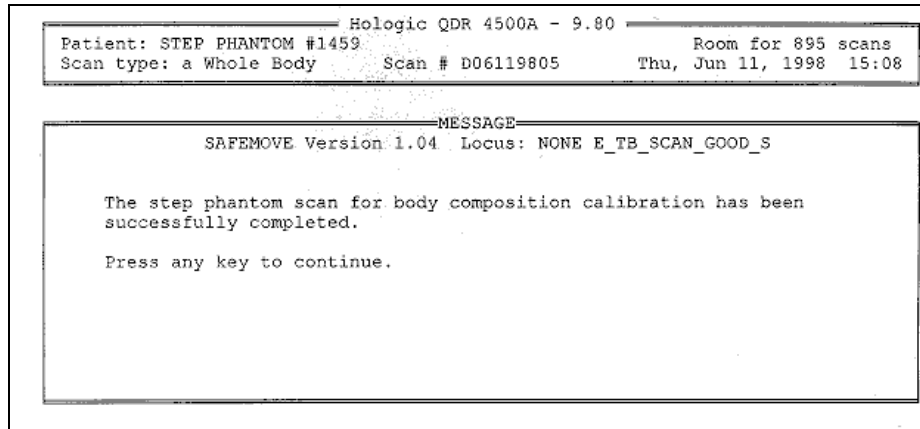

Figure 6-12. Step phantom QC – completed
- The system will display a message ‘The step phantom scan for body composition calibration has been successfully completed.’ See Figure 6-12.